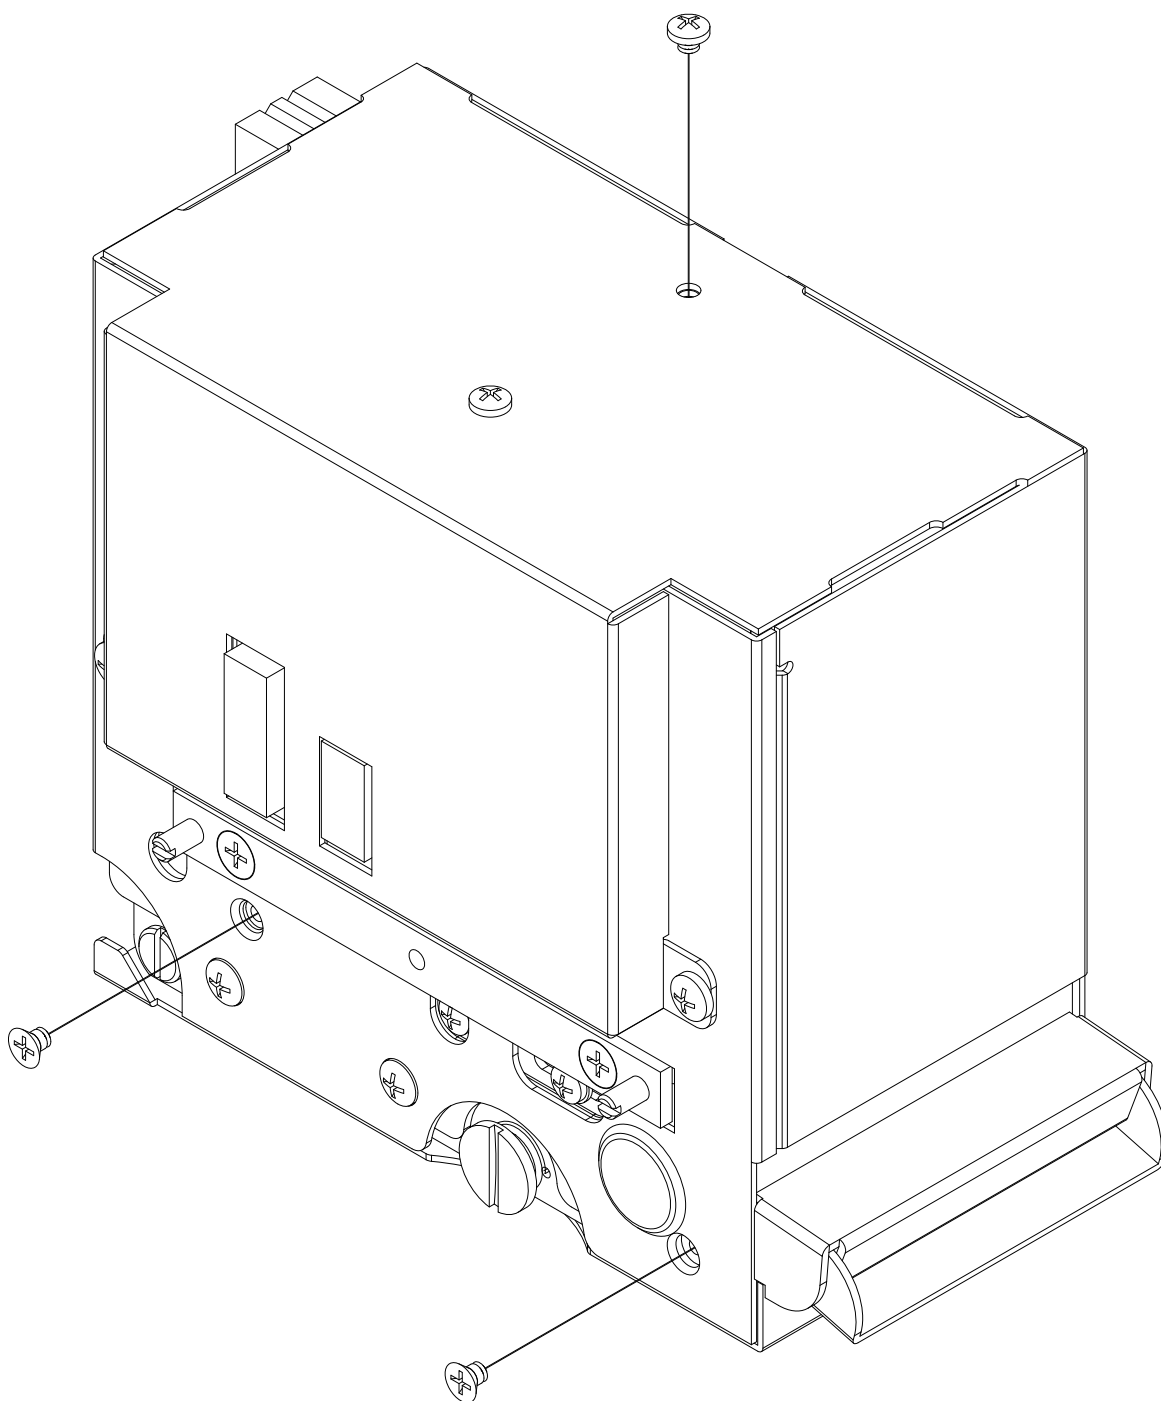

Figure 1
2. Remove the 6-32 x 1/8 screw from the top of the validator as shown in Figure 1.
3. Set the validator on its side with the display and DIP switch facing up. Then remove the two 6-32 x 1/8 flathead screws as shown in Figure 1.
10. Install the two 6-32 x 1/8 flathead screws removed earlier, as shown in Figure 1.
12. Install the remaining 6-32 x 1/8 screws as shown in Figure 1.